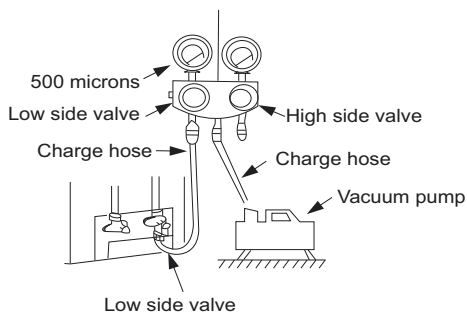

Fig. 25 — Manifold
3. Fully open the low side of manifold gage (see Fig. 25).